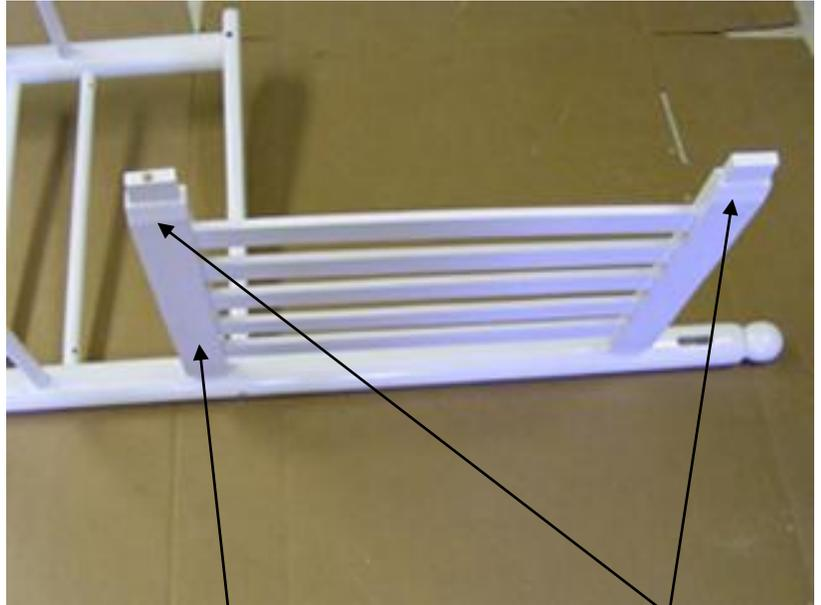

FIG. 2 B (Pre-drilled on bottom) Bevels
Insert Chair Back (B) into mortises on Chair Side. Note that the bevel faces the rear of the chair. Figure 2.